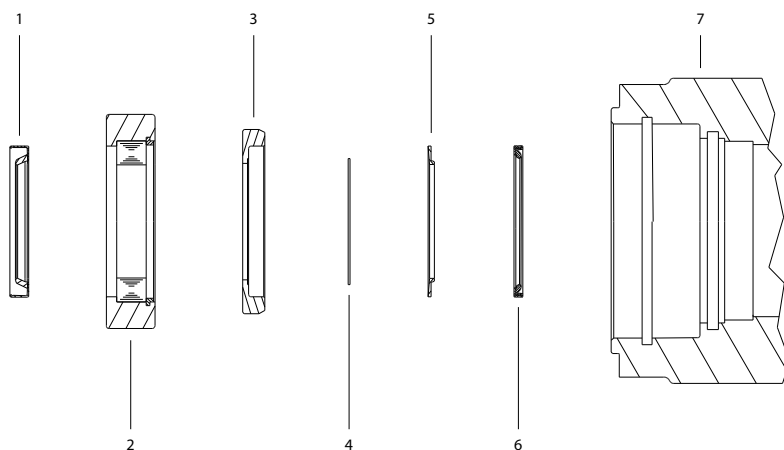

Figure 2: RE 530 A Mount Shaft Stack-up
8. Install high pressure seal (2) into groove in pilot of housing (14). Place shaft on a clean, flat surface with output end facing up. Place thrust washer (12), thrust bearing (13) and second thrust washer (12) over shaft (26). Being careful not to cut seal on keyway, place shaft seal (5) over shaft (26) making sure that lip on seal faces down (see figure 2). Repeat process for backup seal (4) making sure that lip faces down. Place metal backup shim (3) over shaft (26). With flat side facing up, place seal carrier (11) down over shaft. Using an arbor press, carefully press down on seal carrier (11) to press seal assembly (3-5) into seal carrier (11). Lightly grease bearing (10) if needed. Place bearing (10) over shaft making sure that side of bearing with snap ring against bearing rolls faces down.
9. Place shaft (26) assembly into housing (14). Install dust seal (1) over shaft (26) with lip facing up (see RE 530 A Mount Shaft Stack-Up) and carefully press the seal down to seat it in the bearing (10). Install retaining snap ring (9) into groove in housing pilot (14). (Note: It may be necessary to lightly tap the retaining snap ring (9) to allow it to seat properly.) Replace all shaft related components (i.e. keys, wire rings, nuts).